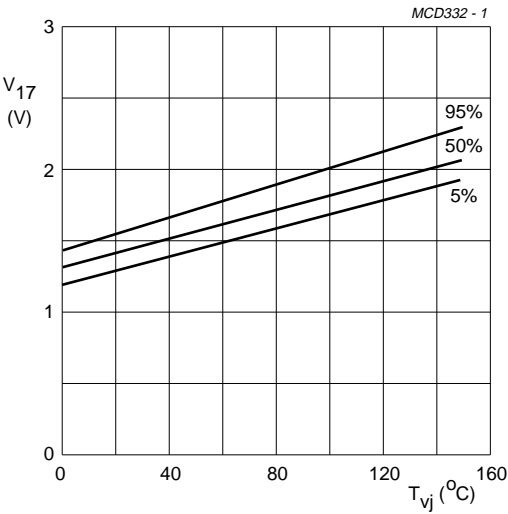

Fig.3 Class-B/class-H pin voltage level.
The open voltage on the class-B/class-H pin is related to the global temperature of the crystal. By measuring this voltage, external actions can be taken to reduce an excessive temperature (e.g. by cutting off low frequencies or externally switching to class-B). For the relationship between the crystal temperature and the voltage on this pin, see Fig.3.
Class-B/class-H operation (see Fig.3 and note 5)
5. Figure 3 shows the relationship between the global crystal temperature and the open voltage at the class-B/class-H pin.